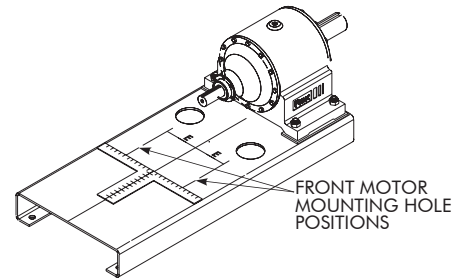

Figure 4B — Layout of Motor Mount Holes
- With a carpenter's square, measure and mark the determined distance perpendicular to the center line to get the front motor mounting hole positions. Repeat this step for other side of center line. Reference Figure 4B.